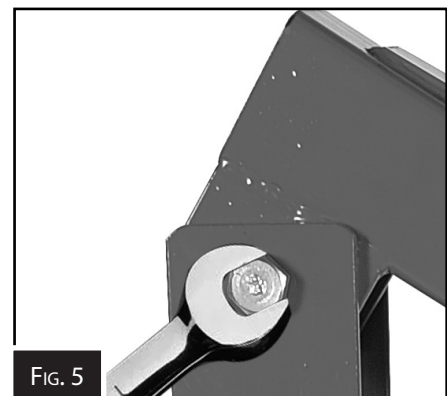

FIG. 5
3. Mount the boom to the main post by lining up the holes and using the M16 x 110mm bolt, flat washer, spring washer and nut supplied and securely tighten the bolt and nut.(Fig.5)